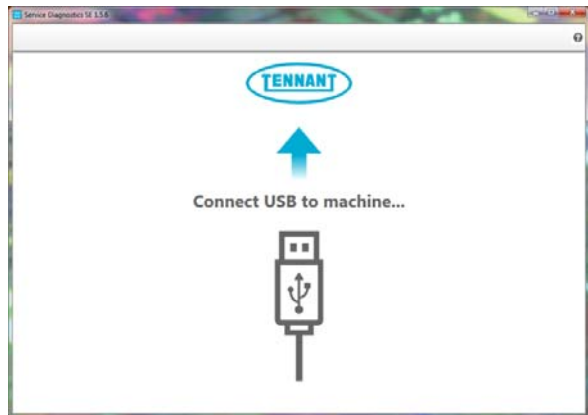

FIG. 14
2. Start the Service Software Application program. The following screen will appear. (Fig. 14)